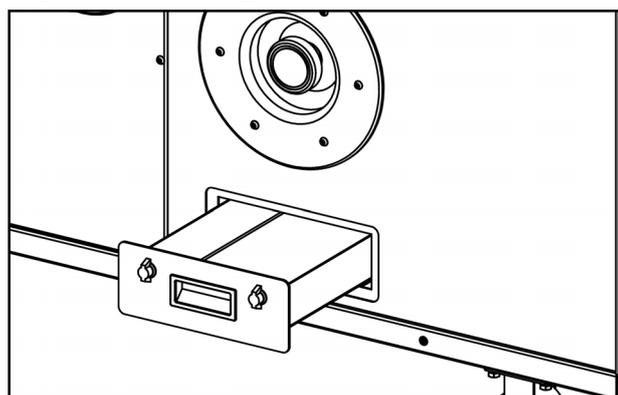

Fig. 15
As shown in Fig. 15, turn the locking knobs, and pull out the dust box to empty the dust.
6.2 Clean Dust Box (Fig. 15)